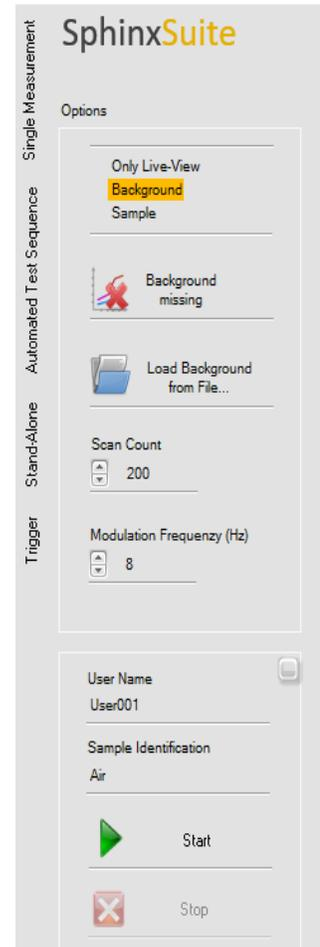

Figure 13: Measurement Options
3. Click ► **Start** to start the measurement. (Figure 13)